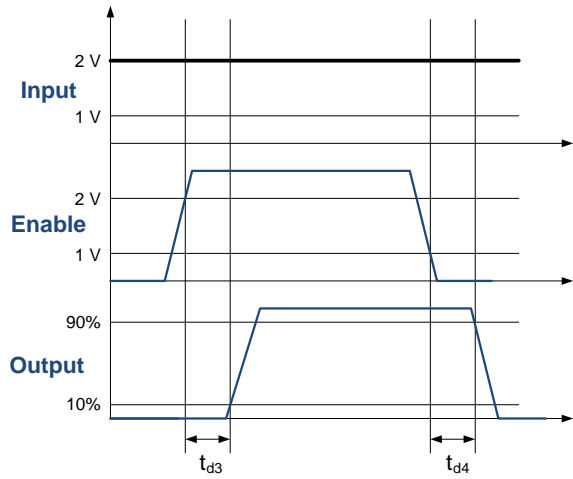
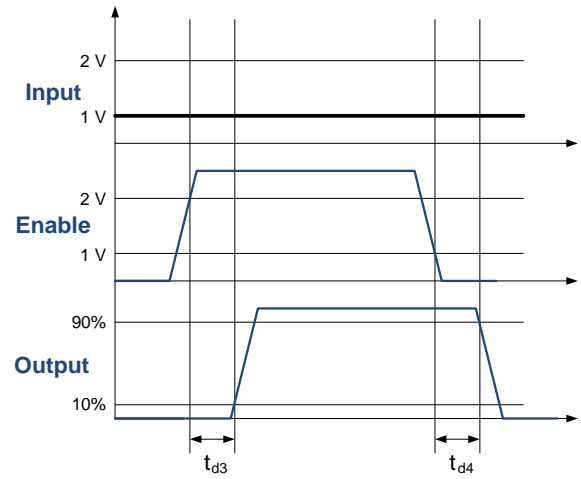
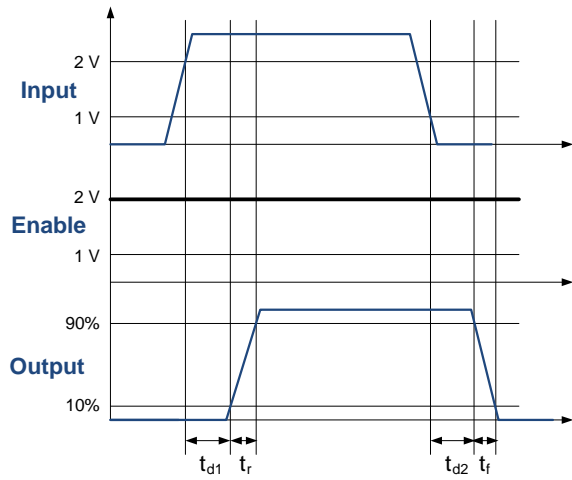
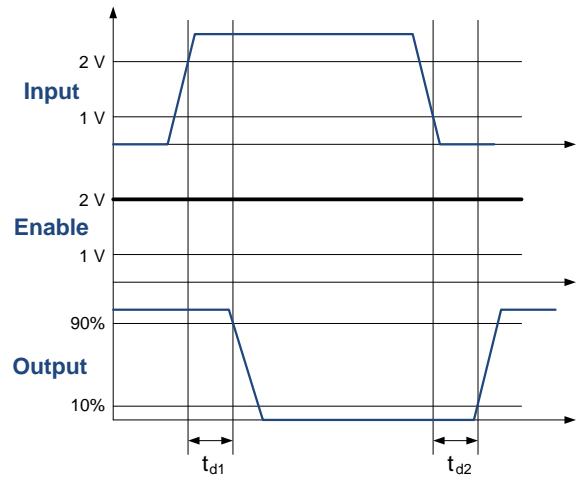

Figure 2. Enable Function for Non-inverting Input Driver Operation
Figure 3. Enable Function for Inverting Input Driver Operation
Figure 4. Non-inverting Input Driver Operation
Figure 5. Inverting Input Driver Operation
- See timing diagrams in Figure 2, Figure 3, Figure 4 and Figure 5.